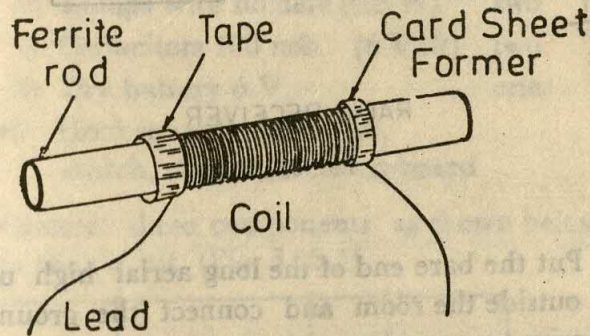

FIG. 3.9.1
3. Now ask the students to wind the enamelled copper wire around the former leaving $1/2$ cm length of the former on either side. Leave 20 cm length of the enamelled wire on either end as leads. Let the turns be close to each other. Ask the students to hold the first and the last turn in position by means of pieces of sticking tape. Use this coil in the receive circuit. (Fig. 3.9.1)